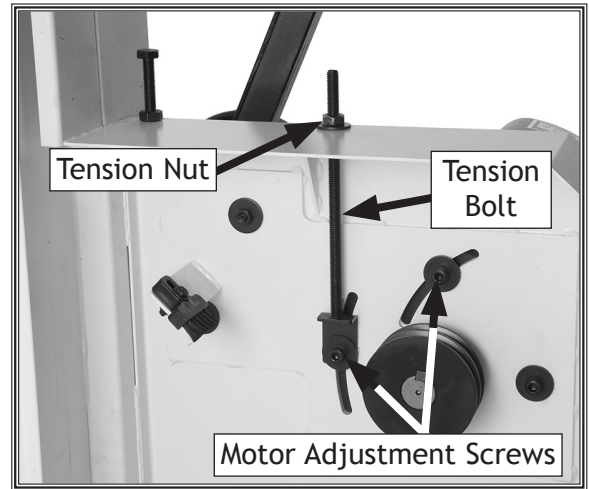

Figure 68. Motor mount bolts and tension bolt. (Lower wheel removed for clarity.)
2. Loosen the motor adjustment screws shown in **Figure 68**.
3. Loosen the motor adjustment bolts and tension nut shown in **Figure 68**, then turn the tension bolt counterclockwise.